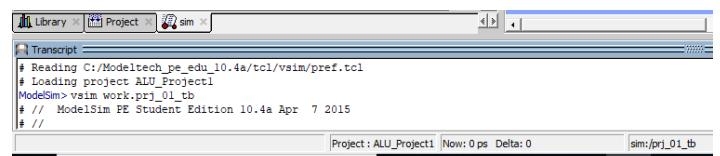

Figure 2.12: Transcript Window (partial view)
- Also, the output will appear in text format in a ‘Transcript’ window (Figure 2.12) (output shown later in the report).